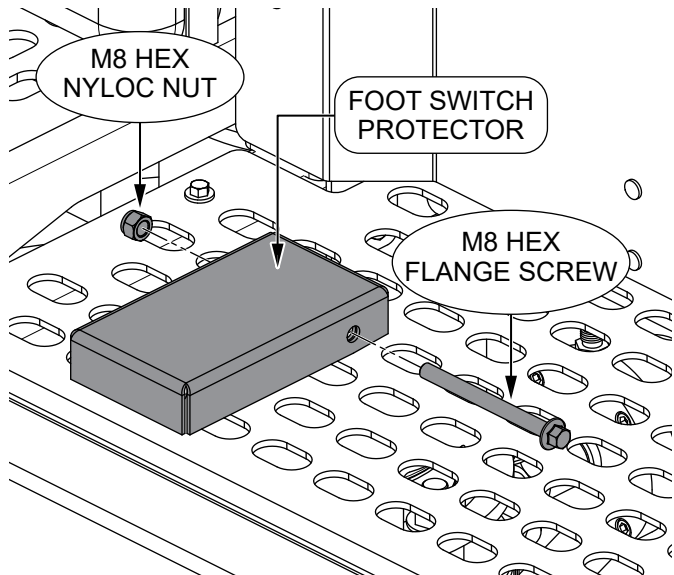

Figure 4. Remove Foot Switch Protector
3. Remove the **M8 hex flange screw** (Figure 4) and **M8 nyloc nut** securing the **foot switch protector** to the front platform, then remove the foot switch protector.